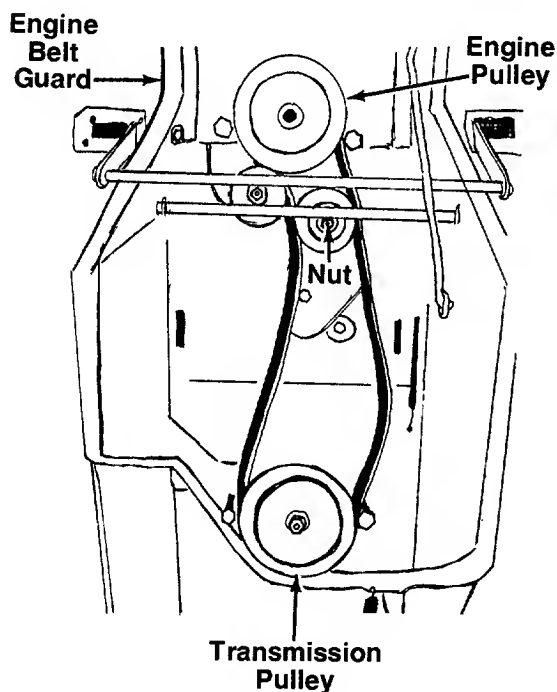

FIGURE 19.
2. Remove the two shoulder bolts by the engine pulley. See figure 19.
5. Remove the two shoulder bolts from the engine pulley. See figure 19.
8. Remove the engine belt guard. See figure 19.